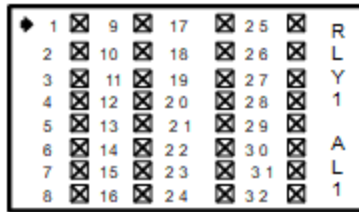

Figure 3-10 – Select Channels Menu
- Select Channels brings up a Check Box (Figure 3-10) screen for assigning which of the Active Channels are assigned to this relay. This allows creating Zones among the active channels.